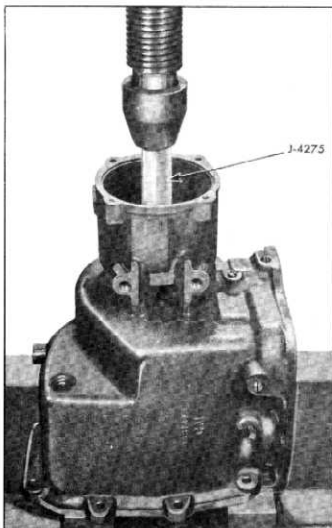

Fig. 116—Removing Transmission Rear Bearing
2. Install bushing remover tool J-4275 and press old bushing from case (fig. 116).